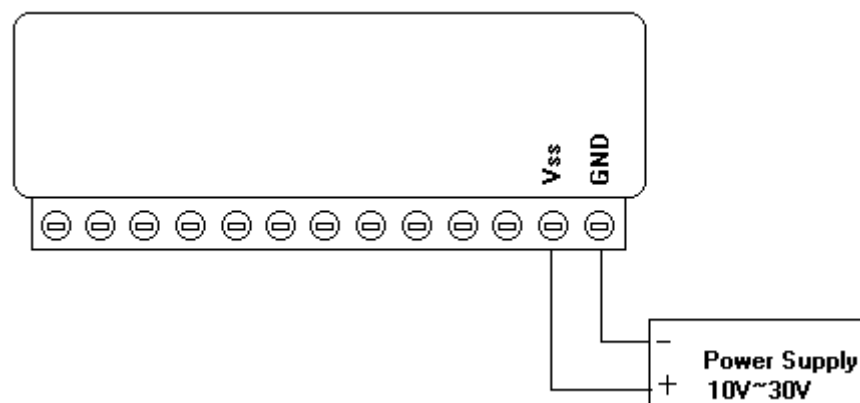

Figure 5-1 Power wiring
- ◆ Make sure to prepare all of the items above, then connect the power and network wiring as Figure 5-1